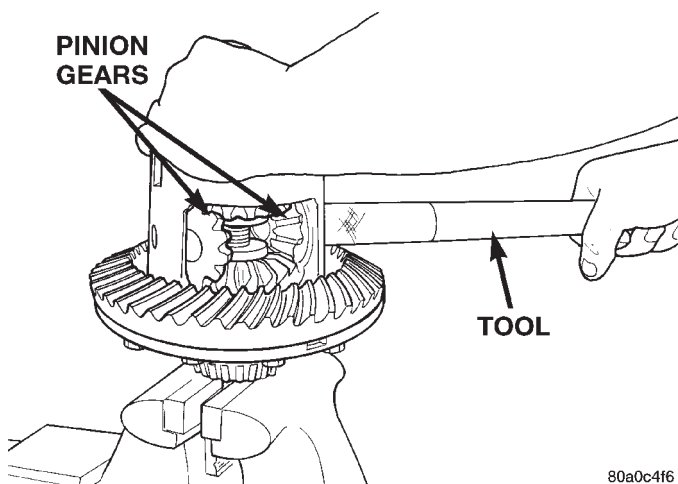

Fig. 52 Pinion Gear Removal
(11) Insert Turning Bar C-4487-4 in case (Fig. 52).
(12) Loosen the Forcing Screw C-4487-2 in small increments until the clutch pack tension is relieved